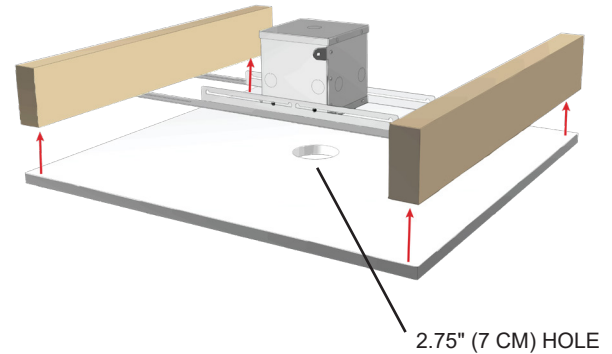

Figure 6.
5. Install the drywall over the conduit as shown in Figure 6.